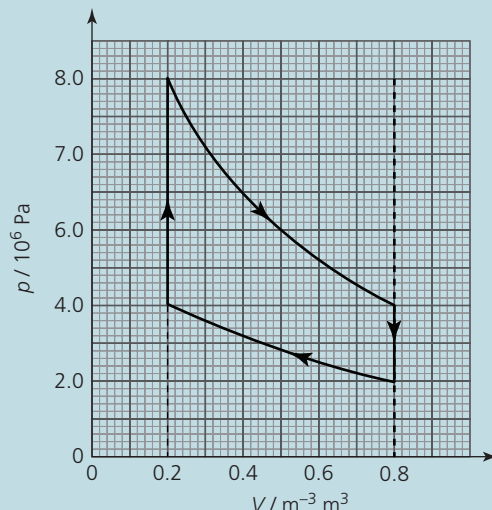

Figure 8
- The p - V plot in Figure 8 is for a four-stroke petrol engine, which has four pistons (cylinders). This engine is rotating at 3000 rpm. Use this information and the diagram to calculate the indicated power of the engine.